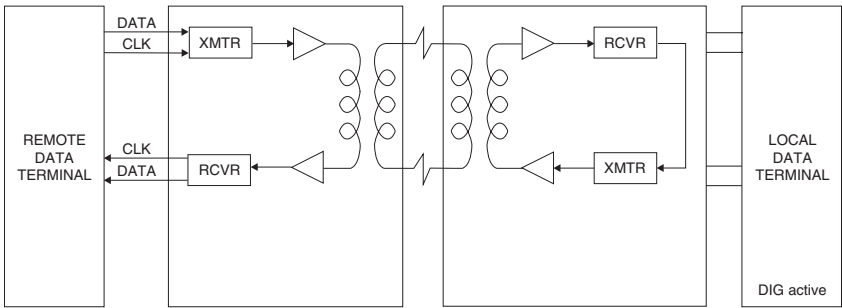

Figure 4-3. Local digital loopback.
1. Push the local A/S2W SHM’s DIG (Local Digital Loopback) pushbutton. (There is no way to initiate this test electronically.) The TEST LED should light on both units as the local unit sends a local-loopback notification to the remote unit and then internally connects its receiver input to its transmitter output (see Figure 4-3 below).